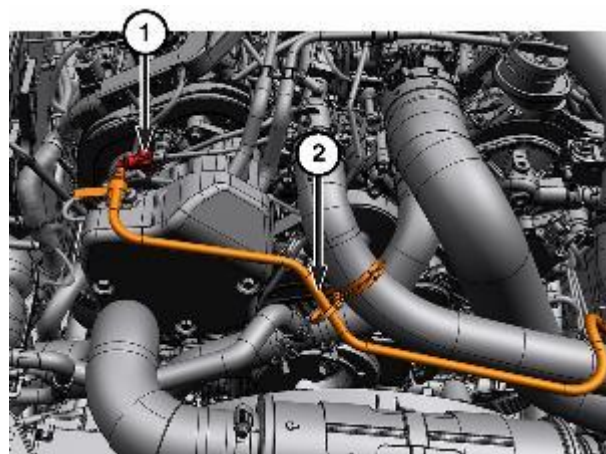

Figure 12 – Vacuum Line
6. Disconnect the quick-connect fitting (1) and set the vacuum line (2) aside (Figure 12).